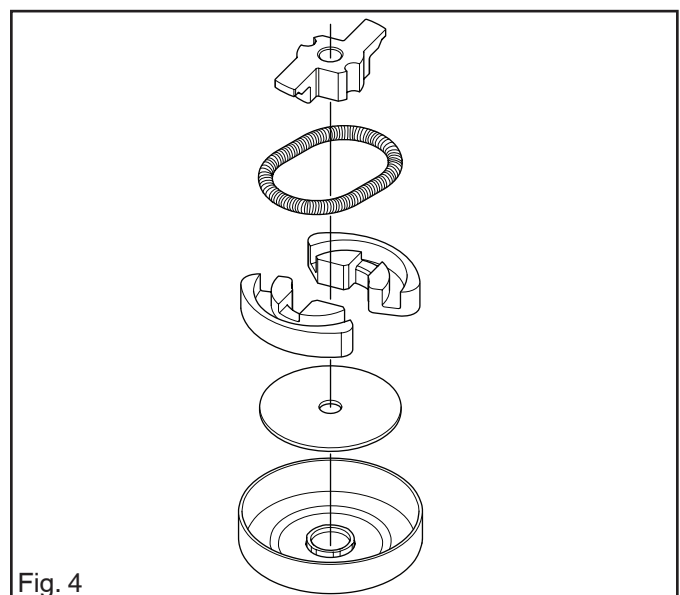

Fig. 4
1. Assemble the clutch as outlined in Figure 4.